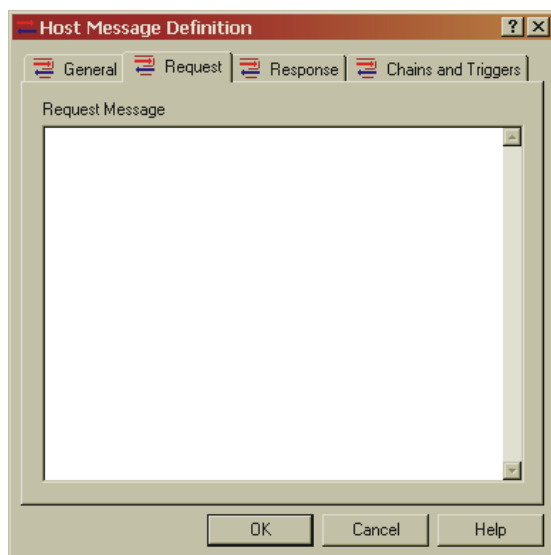

FIG. 214: REQUEST PAGE WITH NO REQUEST MESSAGE
Step 8. Click on the Request tab. The Request page appears with nothing entered in the text field. (See Fig. 214)